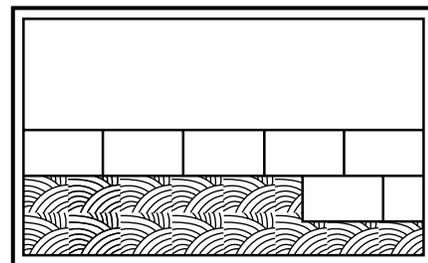

Fig. 8
- Install rectangular tiles along the center line in straight rows. Complete each row, including cut pieces at the wall before proceeding to the next row (Fig. 8).